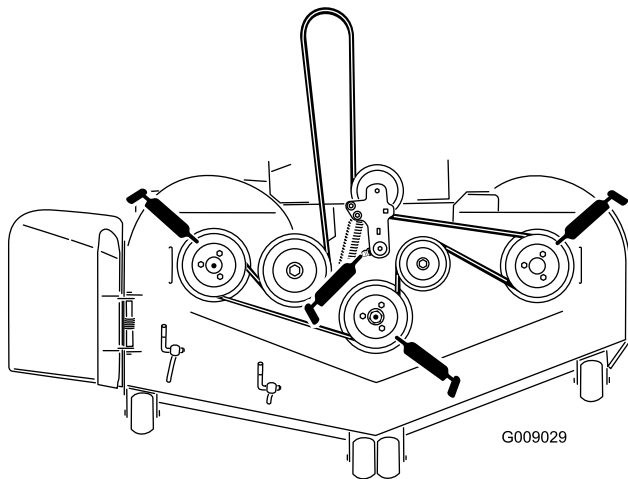

Figure 37
3. Grease the mower deck idler pulley pivot until grease come out the bottom (Figure 37).
4. Grease the fittings on the side of the 3 spindle bearings until grease comes out the bottom (Figure 37).
5. Grease the drive belt idler arm (Figure 37).